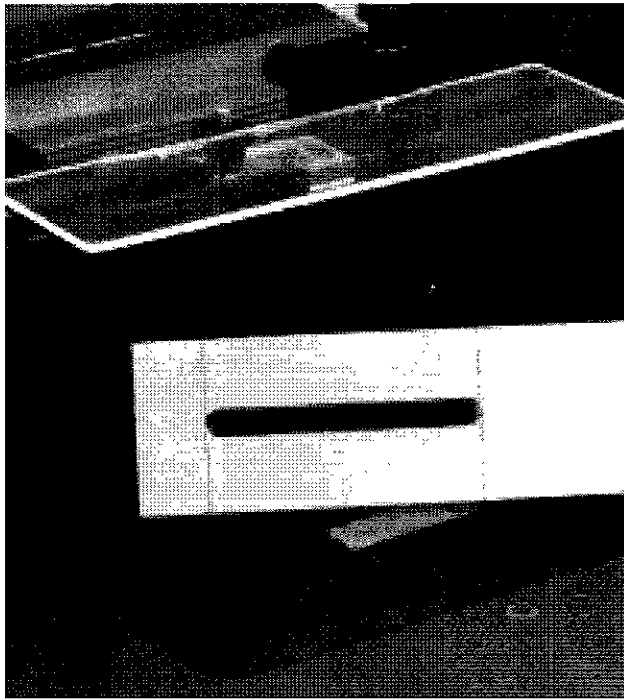

Figure 22
11. Repeat steps 7 through 10 until you achieve your final cut depth....making 1/8" to 1/4" deep cuts with each pass. See Fig. 22.